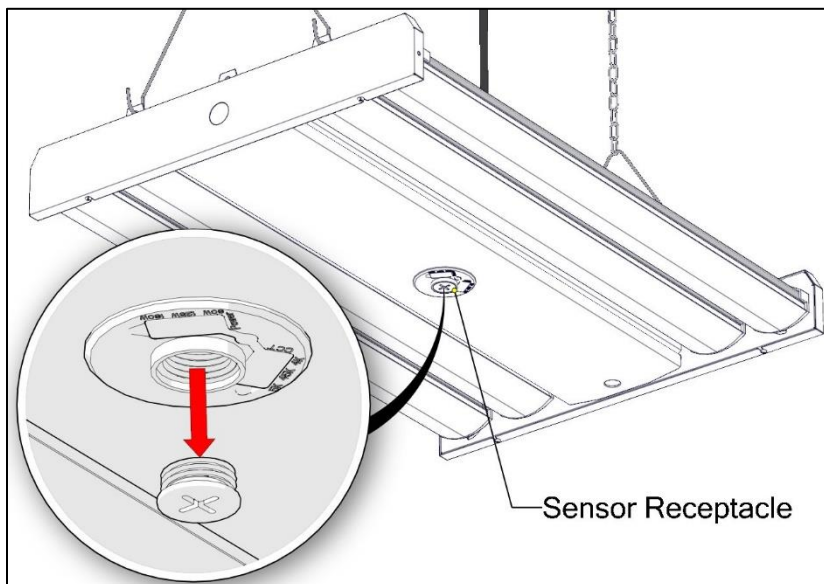

Figure 7
12. The optional sensor can be installed by removing the conduit plug from the receptacle installed on the underside of the fixture and threading the sensor in its place. (Figure 7)